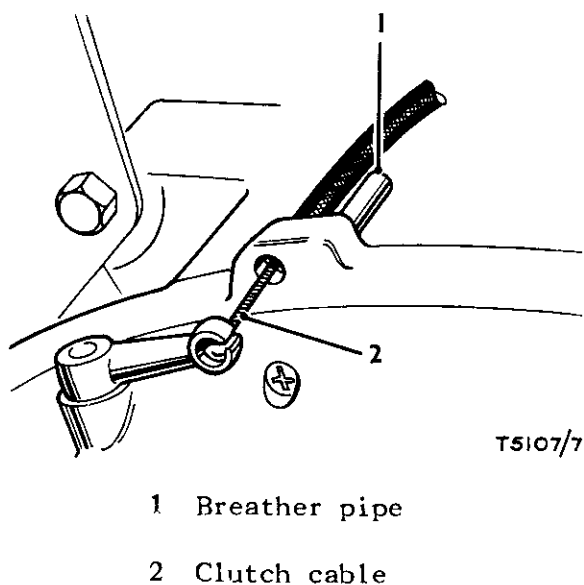

Fig 7 Crankcase breather
22. The short crankcase breather pipe (Fig 7(1)) emerges from the timing case near to the clutch cable abutment. It is most important that this pipe is unobstructed, this should be ensured by regular examination.